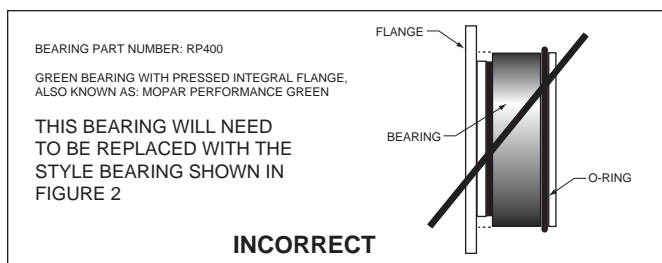
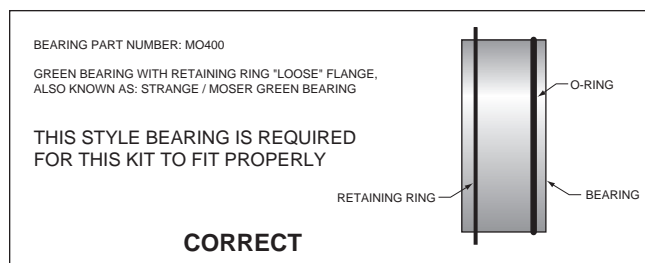

Figure 1. Press Fit Bearing Configuration
Figure 2. Loose Fit Bearing Configuration
- There are two types of “Green Bearings” being supplied by axle manufacturers. Your setup should look like Figure 2 (below right), not the Figure 1 configuration, otherwise this kit will not fit.
- Determine that the appropriate snap ring style Green bearing has been installed on the axle, as shown in Figure 2.